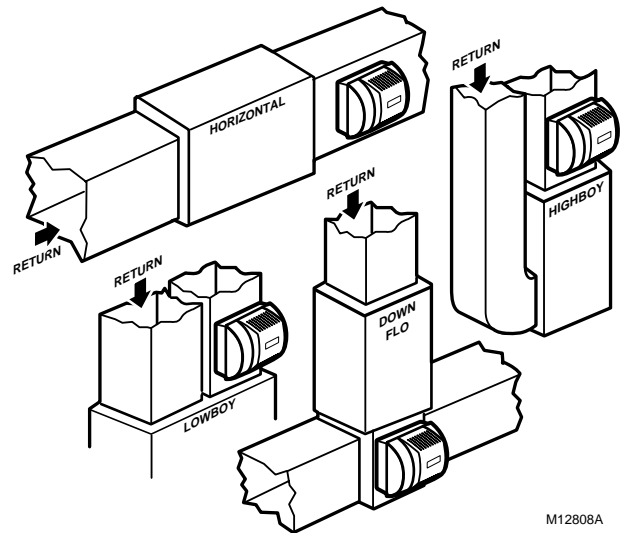

Fig. 2. Typical humidifier installation locations.
1. Determine the best location for the humidifier and draw a level line on the plenum. See Fig. 2 and 3.